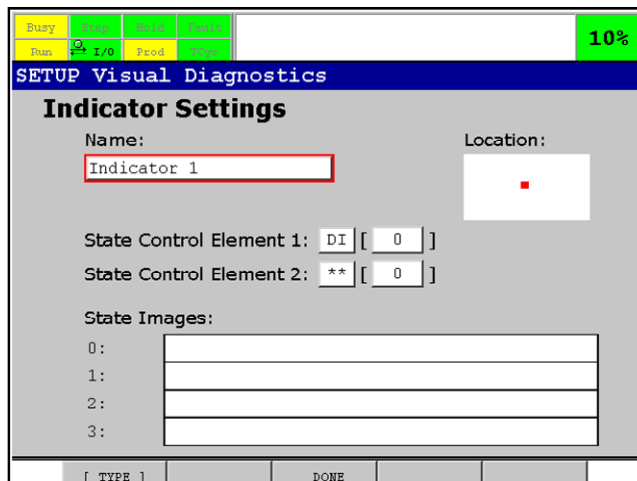

Fig. 51.1 (f) Indicator Settings Page
- b. Only one indicator can be edited at a time. If the name of the indicator you want to edit is not the one displayed, press F4, [CHOICE] and select it from the displayed list. Indicator editing is done on a screen similar to the one shown in Fig. 51.1 (f). Refer to Table 51.2(b) for information on setting up items on the Indicator Setting screen.